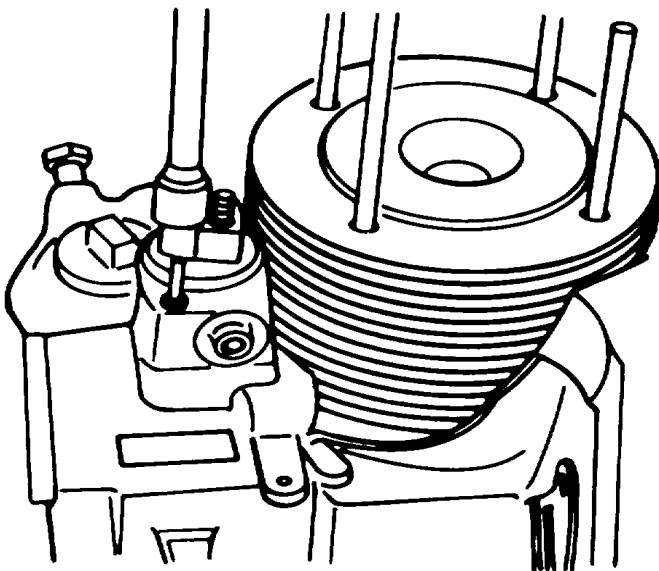

Figure A-14. Compression Release
k. Compression Release. After removing its screws with a 4mm allen wrench, pull the compression release out of the gearcase. (Figure A-14.)